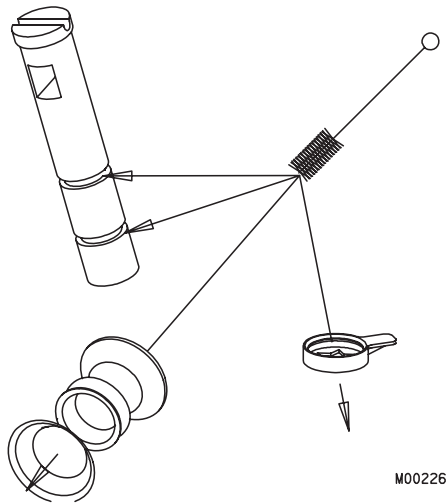

Figure 6-7 Clean shaft seal and plunger
c. The shaft cup seal, washer, and plunger O-ring grooves (figure 6-7).